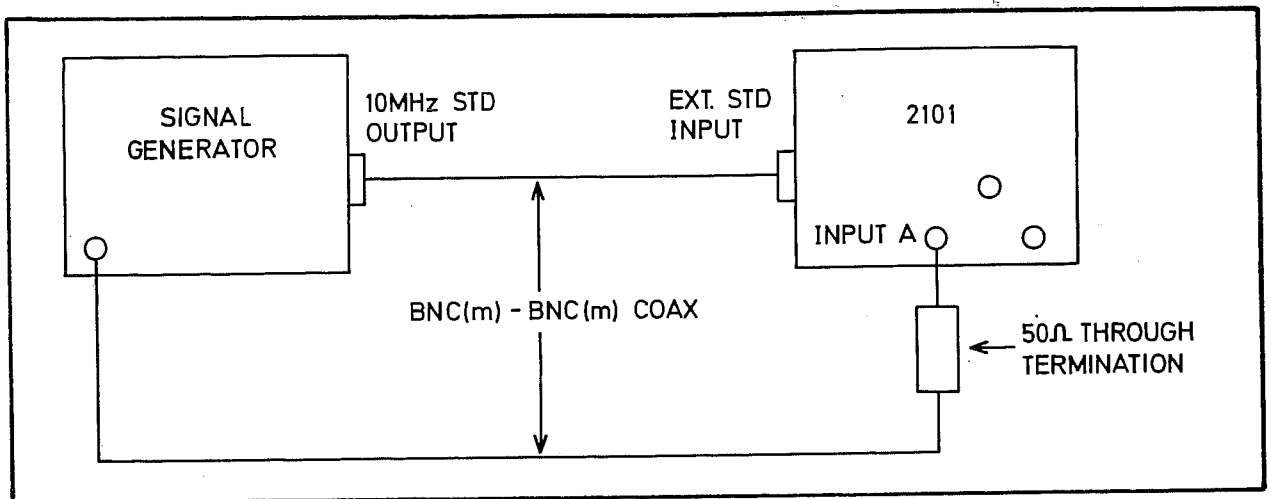
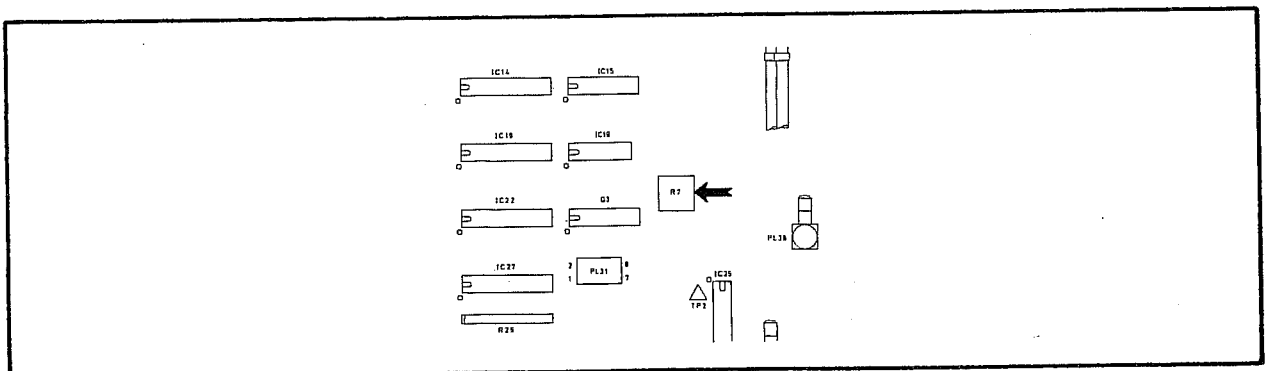

Fig. 7.4 Connections for Channel A Input System Adjustment
Fig. 7.5 Location of R7
- 44 (1) Connect the test equipment as shown in Fig. 7.4.
- (2) Set the signal generator to 80 MHz at 10 mV.
- (3) On the 2101 select FREQ A. Verify that the EXT STD LED is lit, the GATE LED is flashing and the display reads 80 MHz. Set R7 on the motherboard fully counter-clockwise, see Fig. 7.5.